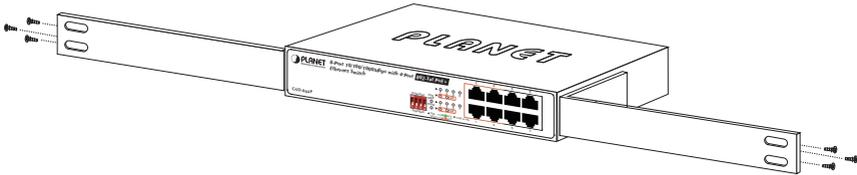

Figure 3-2: Attaching the Brackets to the GSD-804P
Step 2: Attach a rack-mount bracket to each side of the GSD-804P with supplied screws attached to the package. Figure 3-2 shows how to attach brackets to one side of the GSD-804P.